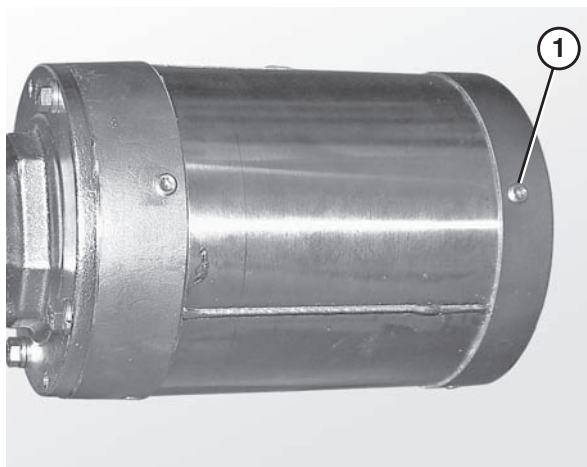

Figure 11
8. Remove the drainage plugs (Figure 11, item 1) on the bottom side of the motor.